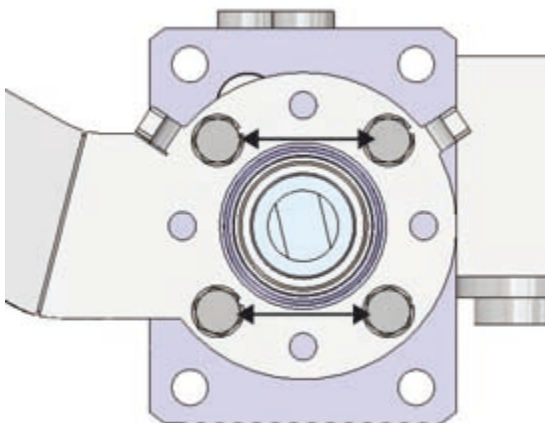

Figure 32. Support plate fastening screws
3. Open the fastening screws (four in total, figure 32) that attach the support plate to the cylinder.